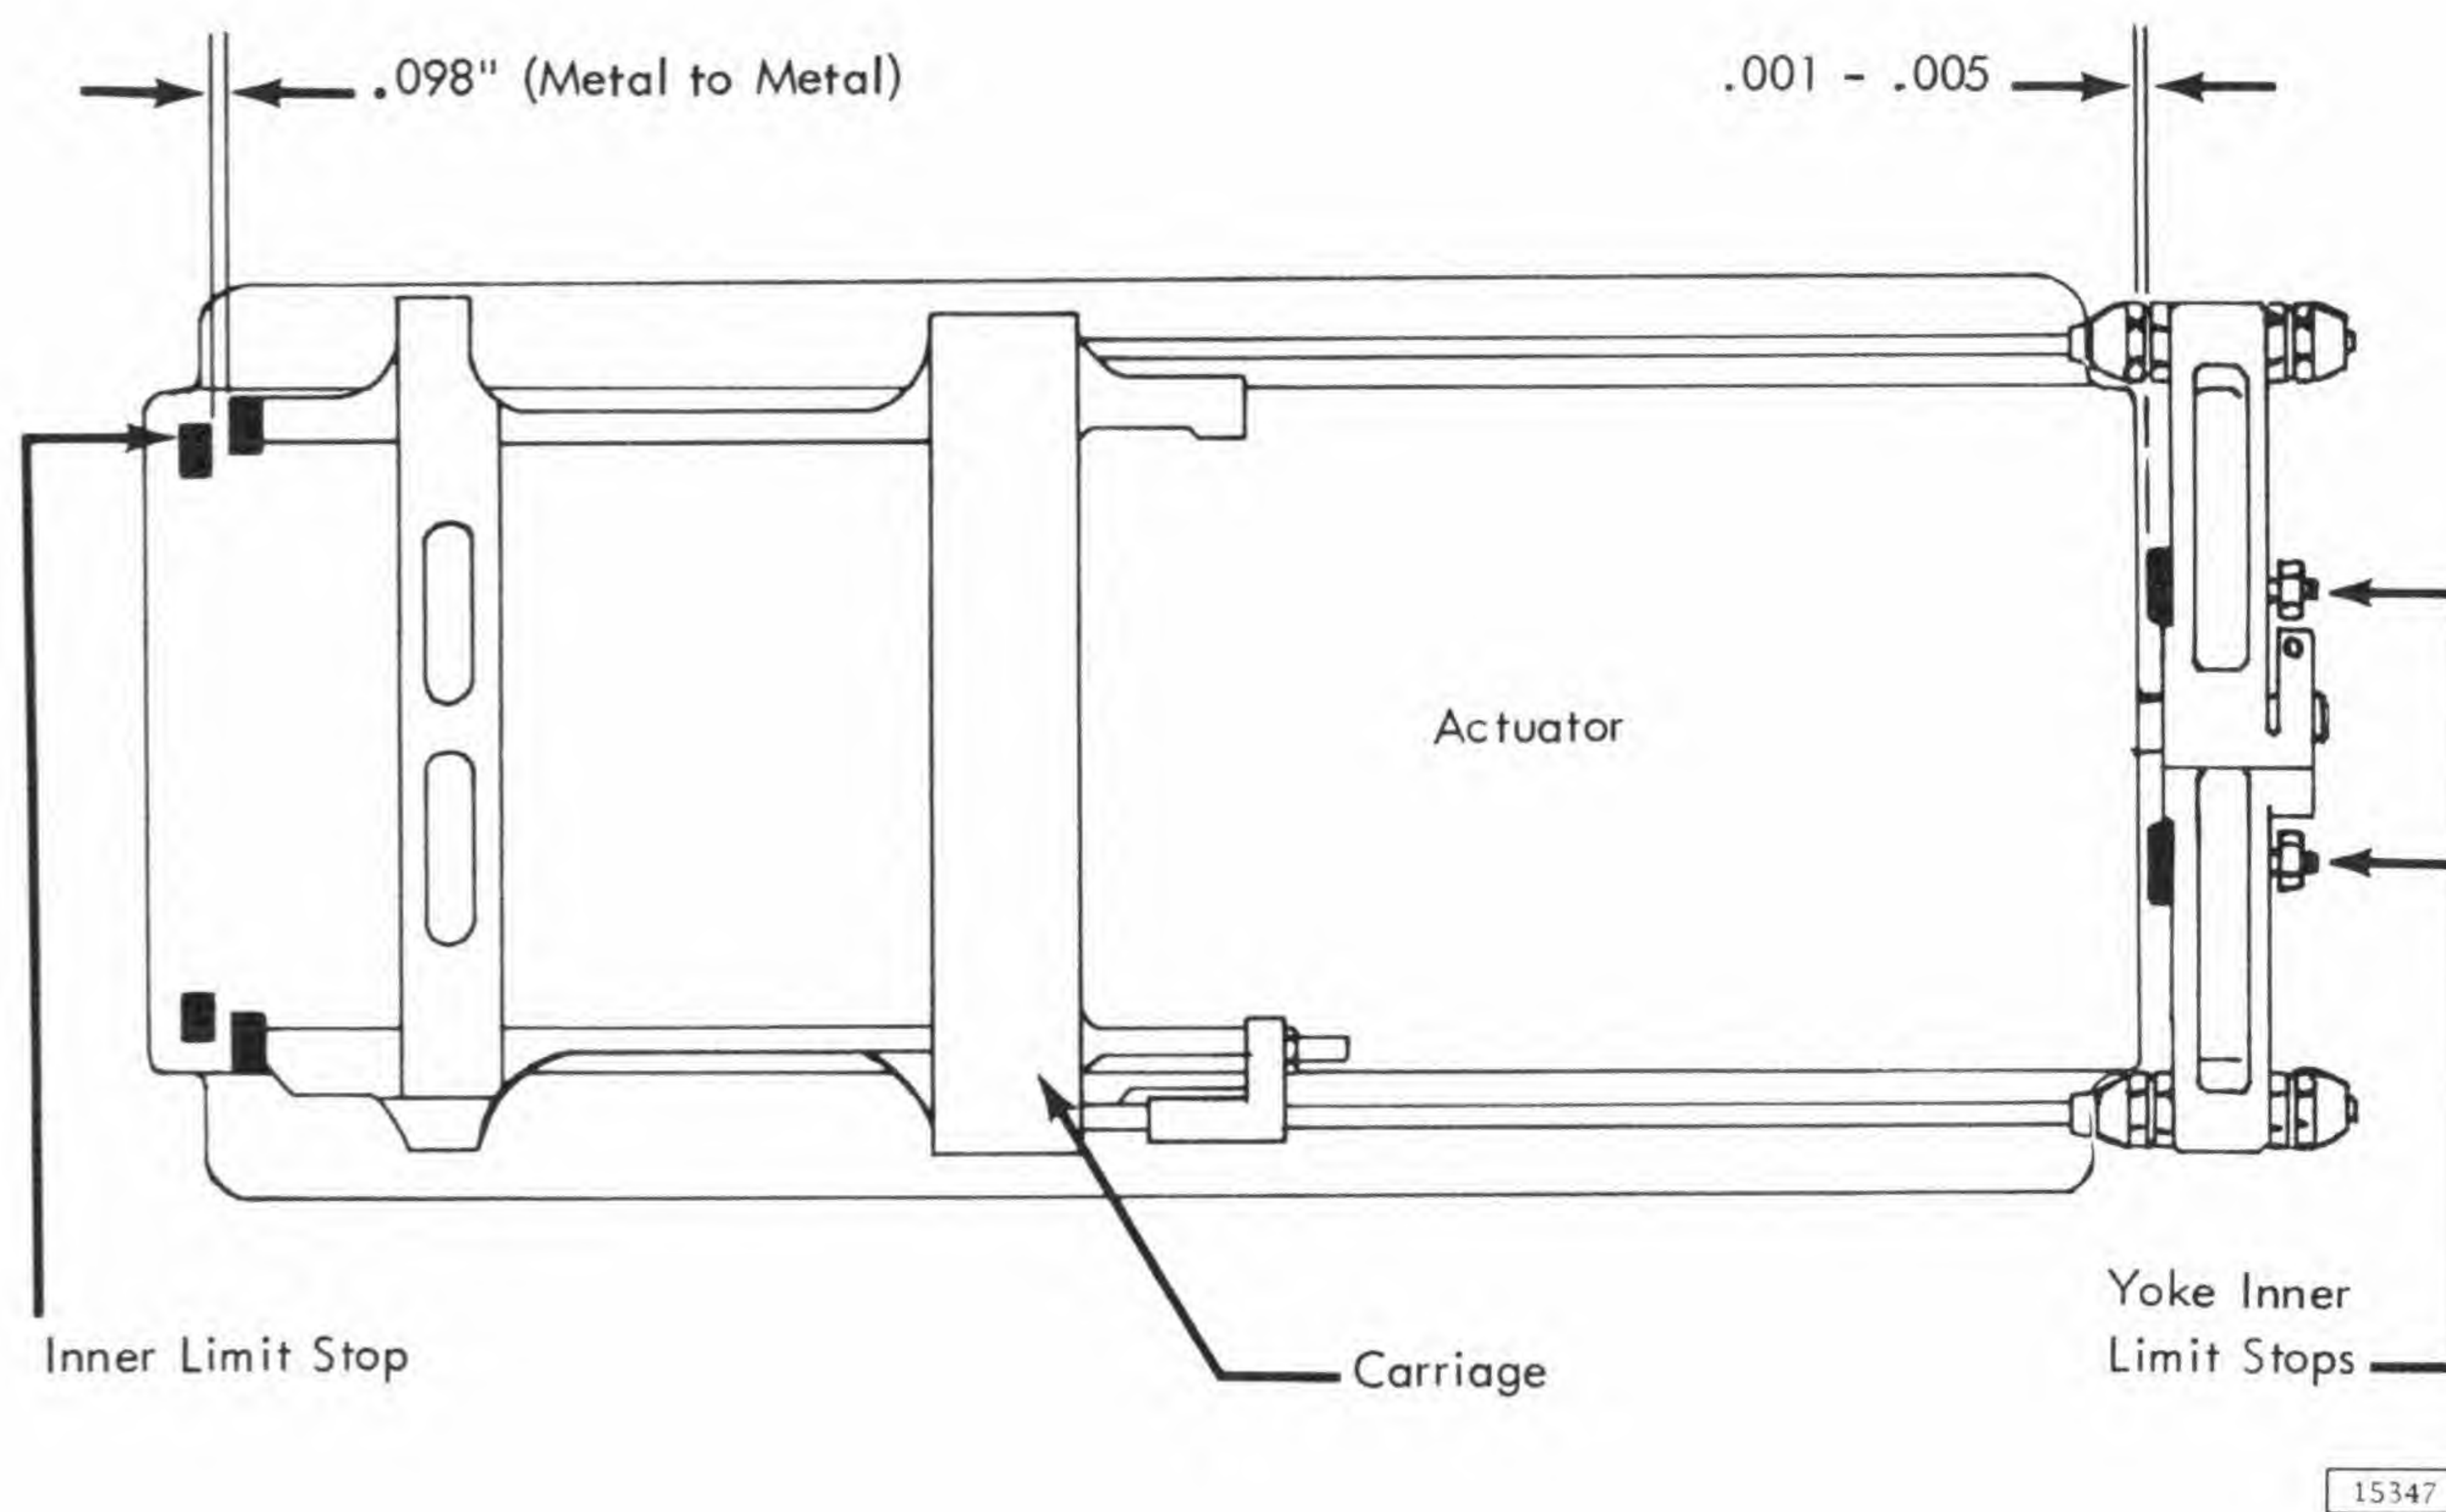

Figure 2-41. Yoke Inner Limit Stop Adjustment
Yoke Inner Limit Stops (Figure 2-41)
2. Place a .098" shim between carriage and inner limit stop (metal-to-metal). See Figure 2-41.